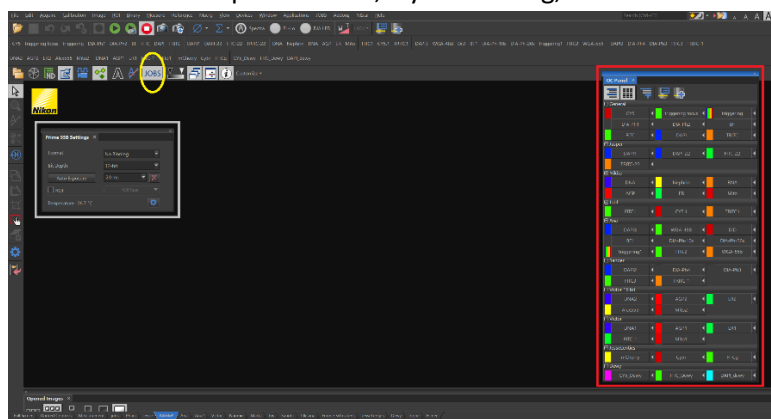
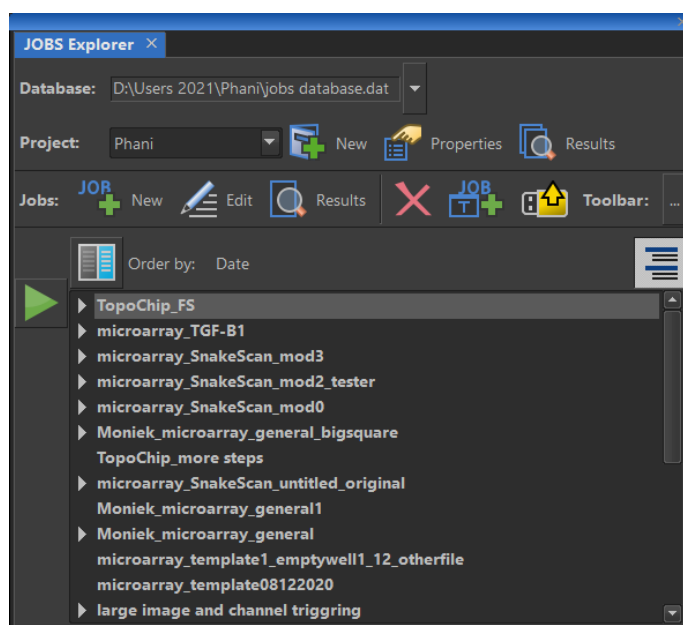

Figure 1: The home page of the Nikon elements software to select the OC panel
Figure 2: JOBS Explorer
6. Set up the correct optical configuration (OC) for each channel to be acquired.
- Select the OC panel as you see below in the red highlighted box and find the right channel (for eg: DAPI : Nuclei, TRITC: Cell cytoskeleton, FITC: cell marker of interest) that are intended for imaging TopoChip (see Figure 1 below).
- All channels that will be used for imaging MUST have EQUAL values selected for “Bit Depth” and binning “Format” (Gray square, Figure 1). Use binning 2x2 to average values of 4 adjacent pixels into 1 (reduces quality and file size). In case staining signal is oversaturated at lowest exposure time, try no binning, 16-bit.
7. Once the exposure settings are defined, click the JOBS (yellow ellipse, Figure 1) tab. This opens a tab JOBS explorer (Figure 2) from where the protocol for the image acquisition can be defined.
9. Use TopoChip_FS which you see in Figure 2 as a basic structure to customize a protocol for any protocol that you want to make for your own job.